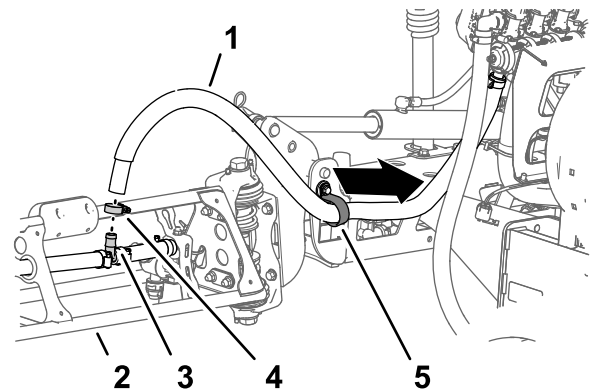

Figure 39
1. At the outer spray section, remove the hose clamp that secures the sprayer-section hose to the barbed T-fitting (Figure 39).
2. Remove the hose from the T-fitting (Figure 39).
3. Remove the free end of the hose from the R-clamp (Figure 39).